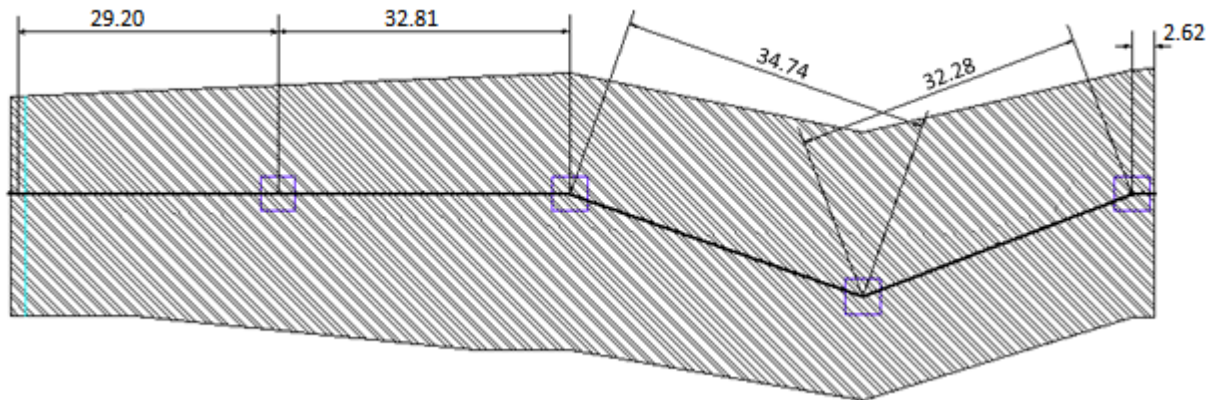

FIGURE 1.1-4
1.1.2.1 Enter Span Geometry (Figure 1.1-4)